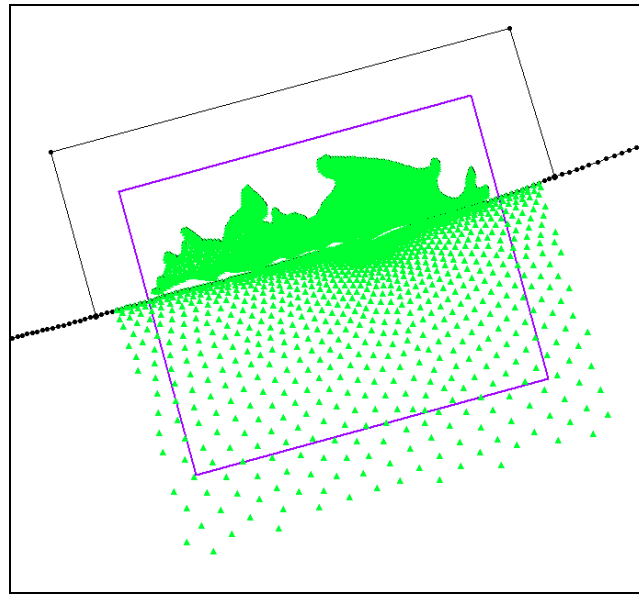

Figure 18-2. Arc created around border of grid frame.
4. Select the *Create Arcs*  tool and create arcs surrounding the top part of the grid frame (outside of the polygons created in Step 1). Click to begin an arc and click to create vertices. Double click to end the arc. Connect the arcs with vertices of the ocean polygon as shown in Figure 18-2. Make sure you click on a vertex to close the loop.